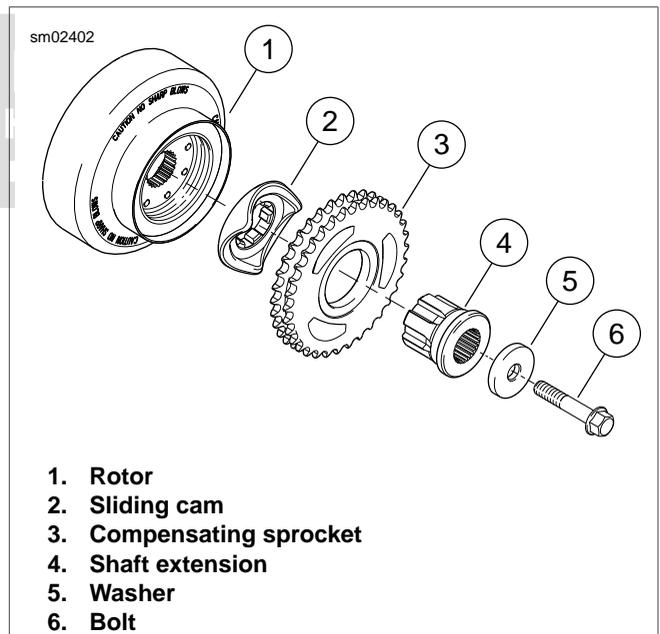

Figure 6-9. Compensating Sprocket
10. See Figure 6-9. Remove bolt (6) and washer (5).